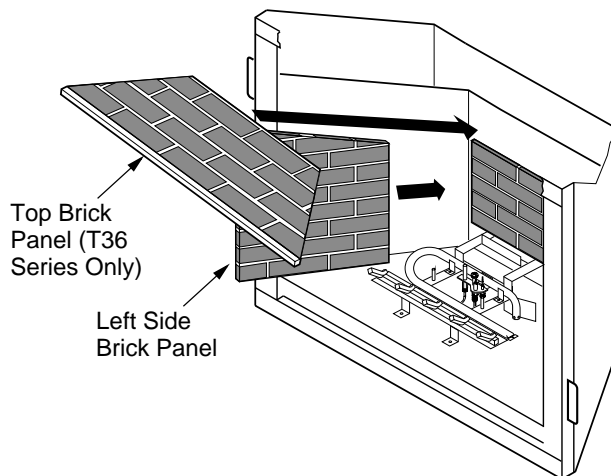

Figure 39 - Installing Left Side and Top Brick Panels
6. Install top brick panel ([V]T36 Series only) by resting on the top of the rear panel. Hold the top brick panel in place and install left side brick panel by sliding it between the grate and the side of the firebox, securing top panel (see Figure 39).